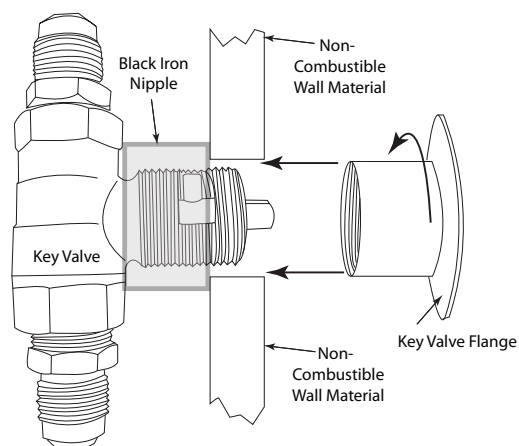

Fig. 5 Typical installation.
3. The primary gas shut-off (not supplied) will require a 1/2" male flared fitting to enable connection of the stainless steel flex gas line supplied with the fire pit (see figure 5 page 6).
The key valve contents: 1- key valve, 1- key and 1- flange. (See figure 4). The valve requires a 1¼" round clearance hole in the non-combustible enclosure wall. See the instructions supplied with the key valve for more specific details. Note: Be sure to leak test all fitting before operation. Figure 5 shows an example of a typical installation.